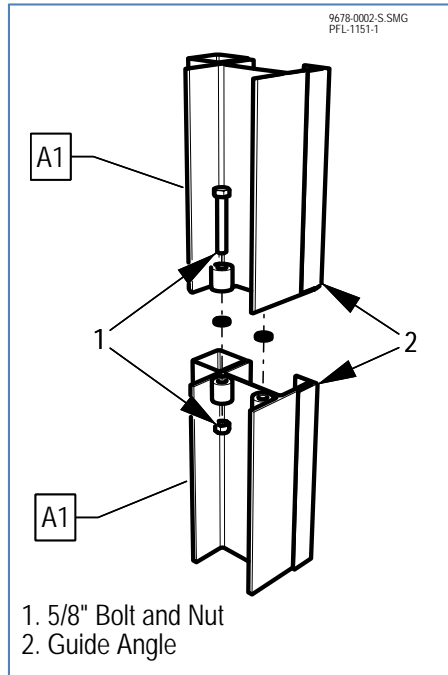

Figure 4
2. Assemble spliced column pieces, **see Figure 4**. Use 5/8" bolts and nuts (two per splice) to help hold and align each piece of the column.